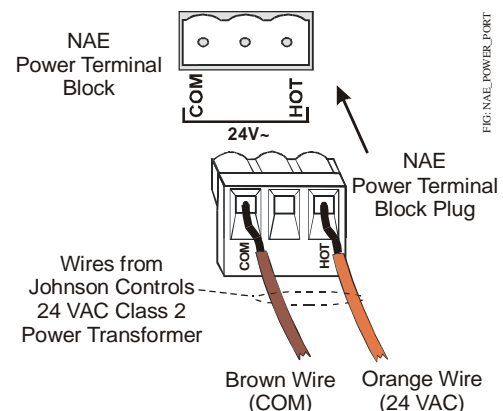

Figure 7: 24 VAC Supply Power Wiring
5. Connect the 24 VAC supply power wires from the transformer to the removable power terminal block plug, as shown in Figure 7.
The 24 VAC supply power is disconnected from the NAE55 by removing the terminal block plug from the power terminal port on the NAE55 (Figure 7).